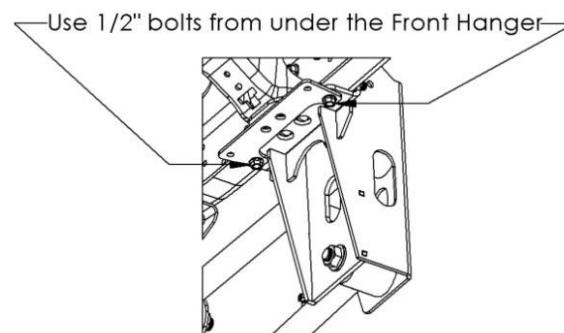

Figure 16. Use 1/2" bolts from under the front hanger
1. Locate the Volume Mount Adapter and attach it to the bottom of the driver side Front Hanger, using the 1/2" fasteners used to attach the front hanger to the bottom of the frame. See Figure 16
2. Locate the Volume Mount Shim, (2) M10-1.5 x 40mm bolts, (1) M10 nut, (2) 1/2-13 Bolts, and (2) 1/2-13 lock nuts.